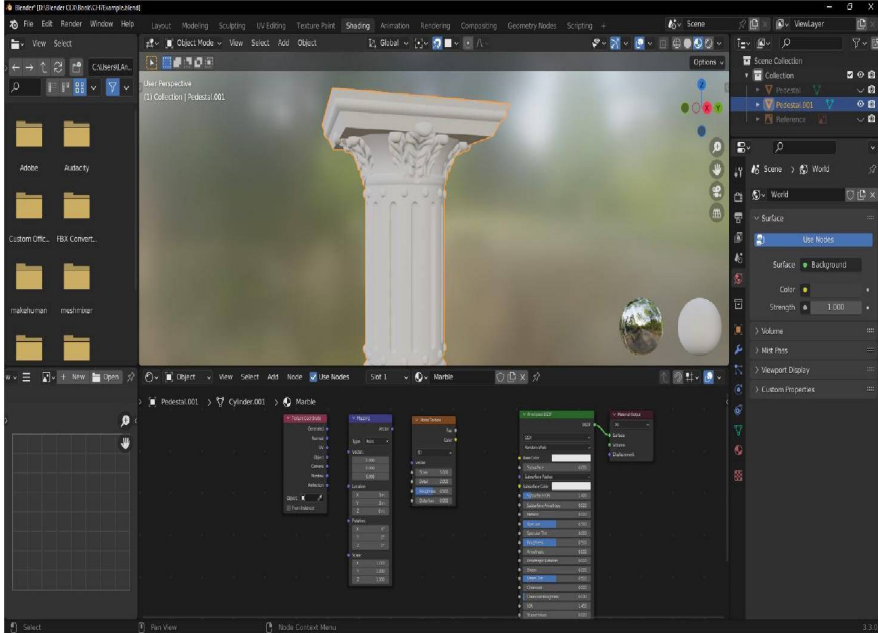

Figure 7.20: New unconnected nodes added to the Shader Editor panel in the Shading Workspace
- Repeat the search again and locate then place a **Texture Coordinate** node to the left of the **Mapping** node as shown in Figure 7.20: